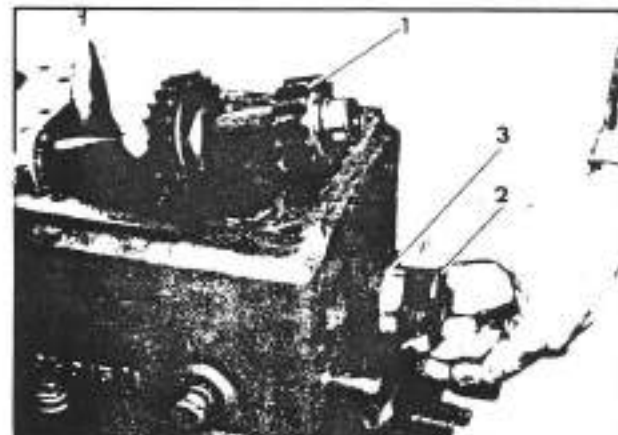

Fig. 3-30. Removal of the main drive shaft
- g. Break out the small cap at the end of the main drive shaft (1; fig. 3-30), extract the retaining ring (2; fig. 3-30), remove the roller bearing (3, fig. 3-30), and take out the shaft (1; fig. 3-30).